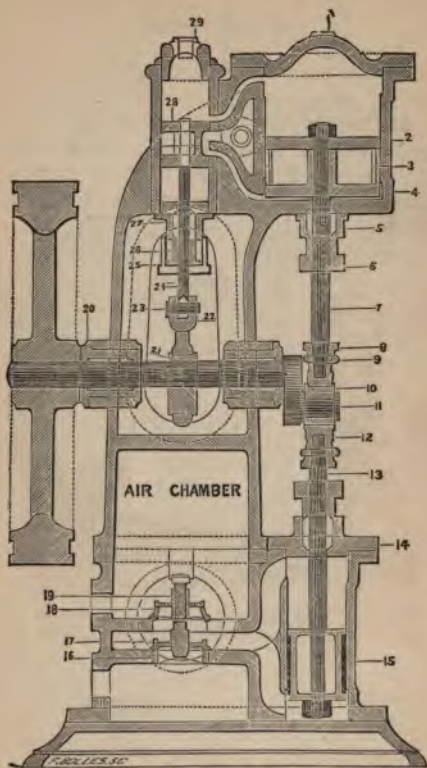

FIG. 21.—ACME PUMP IN SECTION.
A. It is shown in figure 21, which has proper reference numbers. It differs from the "bucket-plunger" pump, in having the regular four-valve, double-acting piston water-end, discharging the full contents of the water cylinder at each single stroke. It can be used as a motor by removing the plugs in the base, which allow the air to come in the drip.